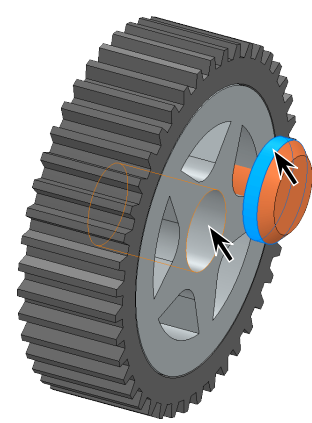

Fig. 8
Step 4. Click a **cylindrical face Axle** and a **cylindrical face of Rim**, **Fig. 8**.